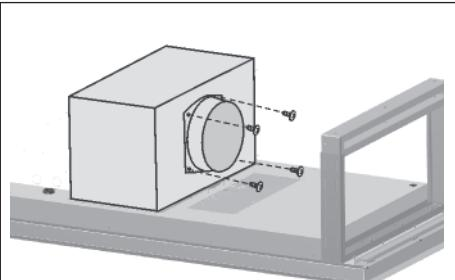

FIG.13
- Remove (4) screws of the damper collar (Fig.13).